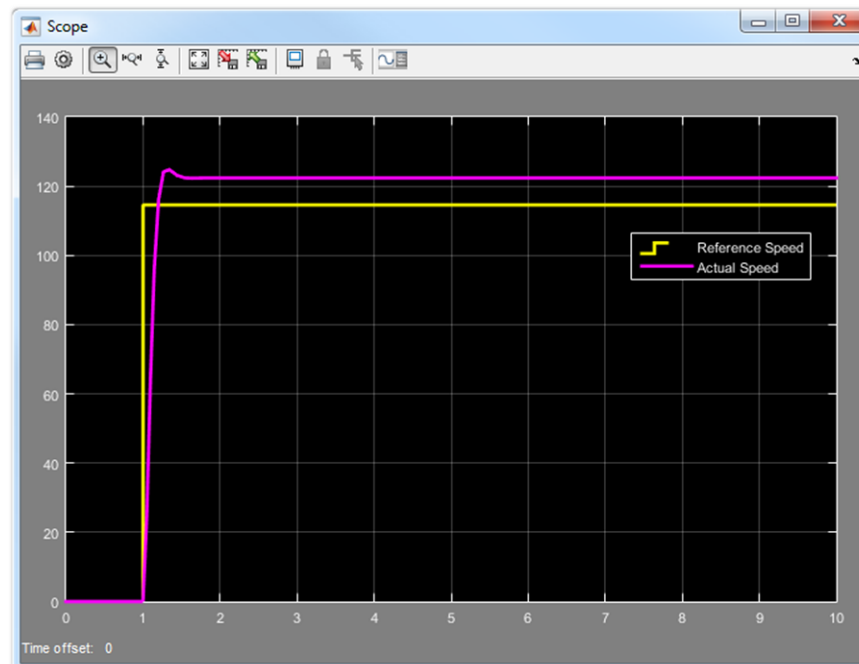

Figure 43 - Reference speed v/s measured speed for the open Loop motor
2. Simulate the model and observe that the actual (measured) motor speed (purple) that drives the EV3 wheels is different from the desired motor speed (yellow) as seen in the Scope on Figure 43.